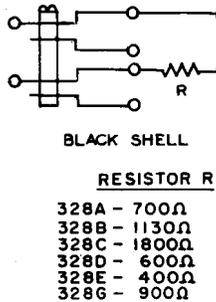

Fig. 4—328-Type Plug
2.03 328A, B, C, D, E, and G: The 328-type (Fig. 4) are flexible, twin-plugs, with a resistor that bridges across the tip springs of a pair of jacks when the plug is inserted. The 328-type plugs are used with the 438- and similar-type jacks for testing with telephone repeaters and toll test board equipment.